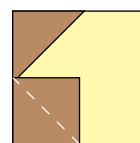
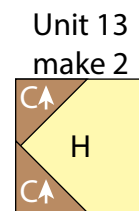

Fig. 21
Fig. 22
10. Follow Figure 21 for the seam direction to add a 2 ½" Fabric C square to the lower left corner of the 4 ½" Fabric H square to make (1) Unit 13 square (Fig. 22).